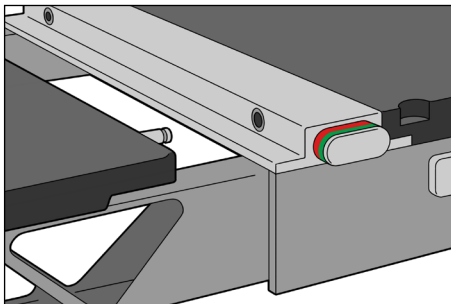

Fig. 1
1. Remove kVue Insert. (Fig.1)